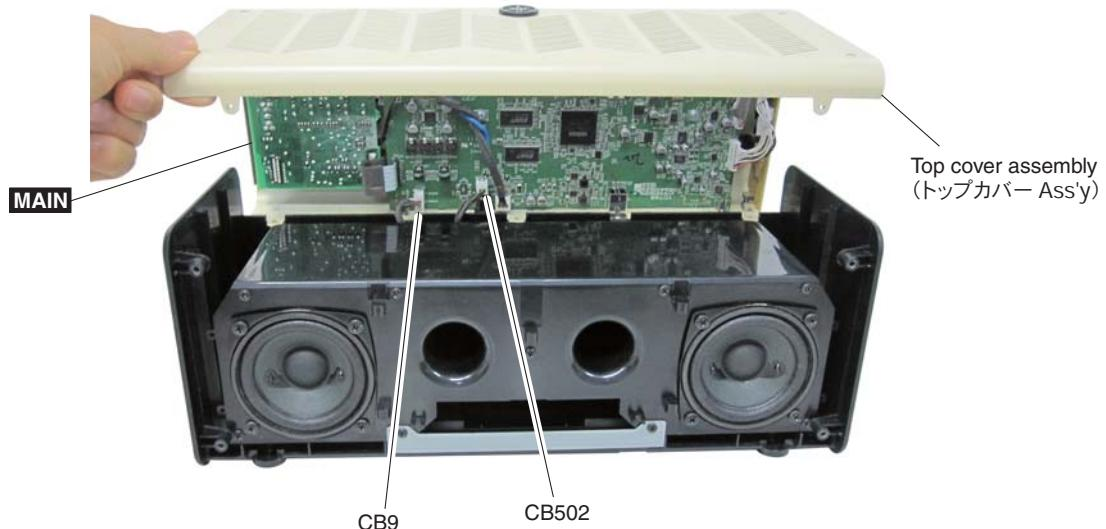

Fig. 2 (図 2)
- 1-2 Lift the top cover front lower side after pulling it toward you. Disconnect the two (2) connector assemblies from CB9 and CB502 on the MAIN circuit board. The top cover assembly can then be removed. (Fig. 2)